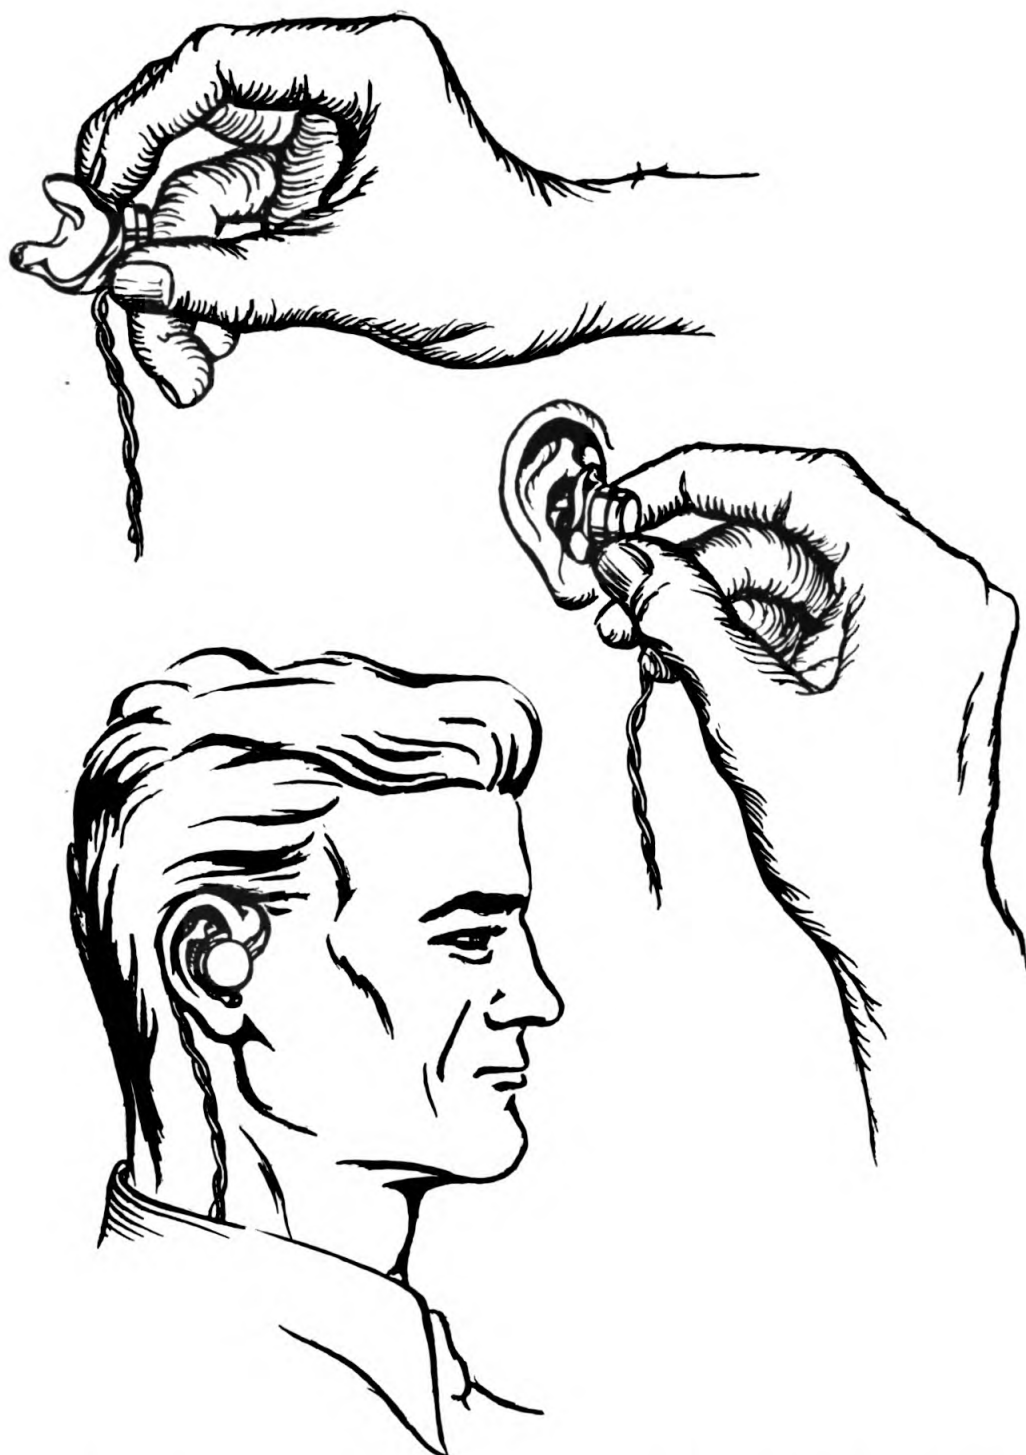

Figure 12. Three Steps for Inserting Ear-piece of Headset HS-34-A in the Ear
*c.* Insert the earphone in the right ear (figure 12) as follows:
(1) Hold the earphone with the thumb and index finger so that the “wing” on the eartip is at your index finger tip pointing away from you, as shown in figure 12.
(2) Without changing your hold on the earphone, catch the “wing” in the front rim of your ear.
(3) Slide the wing down the rim and at the same time gently press the “horn” projection into your ear.
(4) Lead Cord CD-655-A from the phone around your ear, between it and your head. Normally Cord CD-655-A will tuck in under your shirt collar (figure 12), run along your arm under your shirt sleeve, out at the wrist and into the tip jacks marked HEADSET on the control plate under the suitcase handle. Of course if you aren't on a “snooping job” no need exists for concealing the headset in this manner and you can operate with any low-impedance headset plugged into JK-34-A on the front panel at the place marked HEADSET.